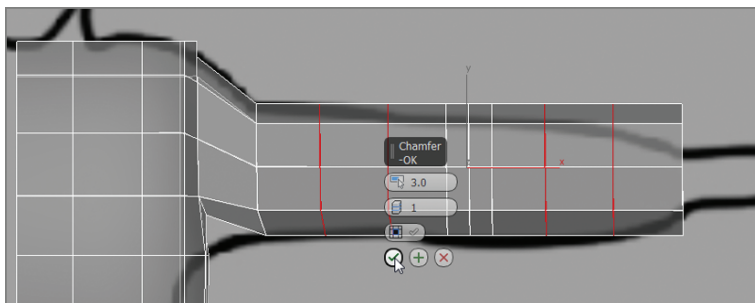

FIGURE 7.21 Chamfer the arm to add more edges for detail.
9. Then chamfer the edges to the right and left of the newly chamfered middle edge, using an Edge Chamfer Amount value of 3 and a Connect Edge Segments value of 1, as shown in Figure 7.21.